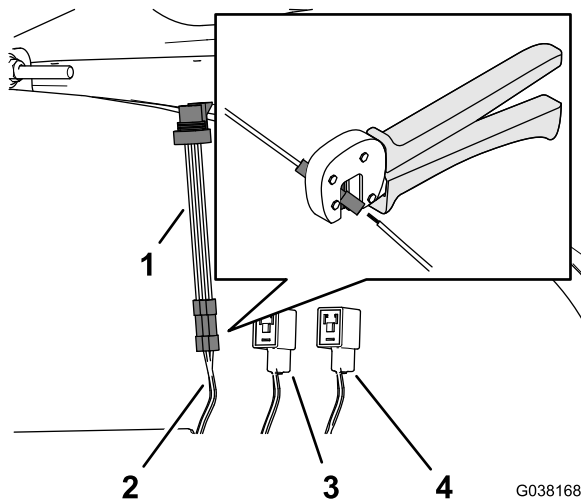

Figure 35
- Center the crimping tool over the butt-splice connector and wires and crimp the connector securely (Figure 35).